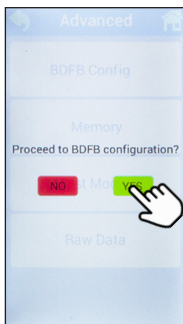

Figure 55. Proceed to BDFB Configuration
- Step 4.** Select YES to proceed to the BDFB configuration screen (see Figure 55).